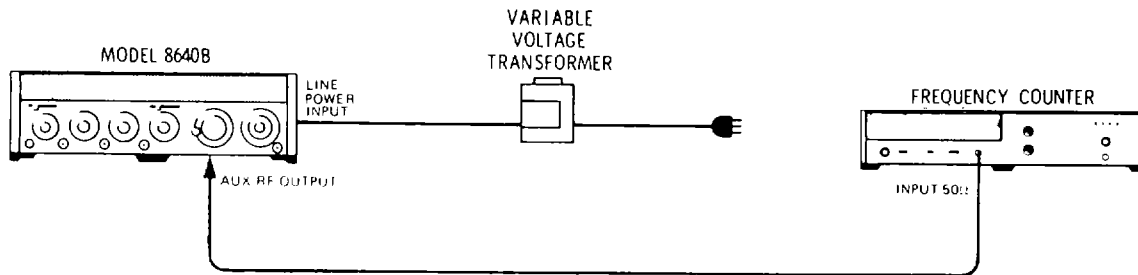

Figure 4-3. Frequency Stability us Line Voltage Test Setup
1. Connect equipment as shown in Figure 4-3 after setting Signal Generator's controls as follows: